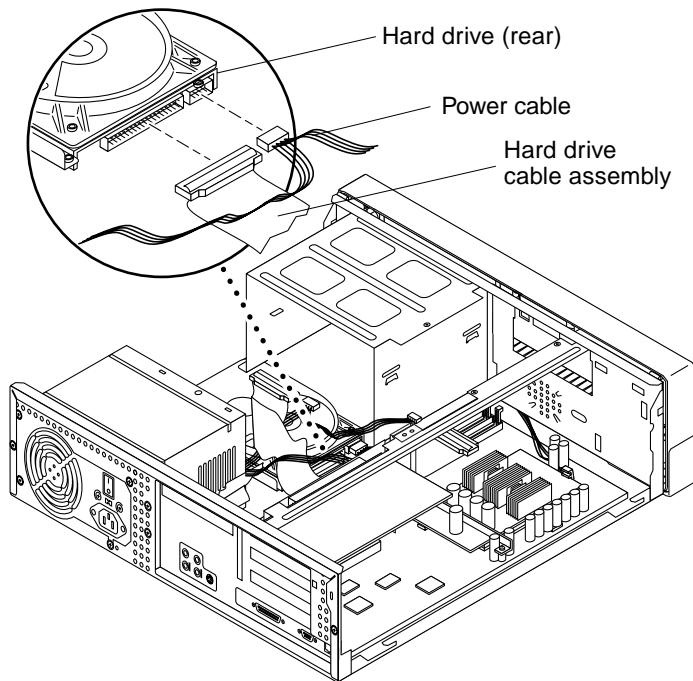
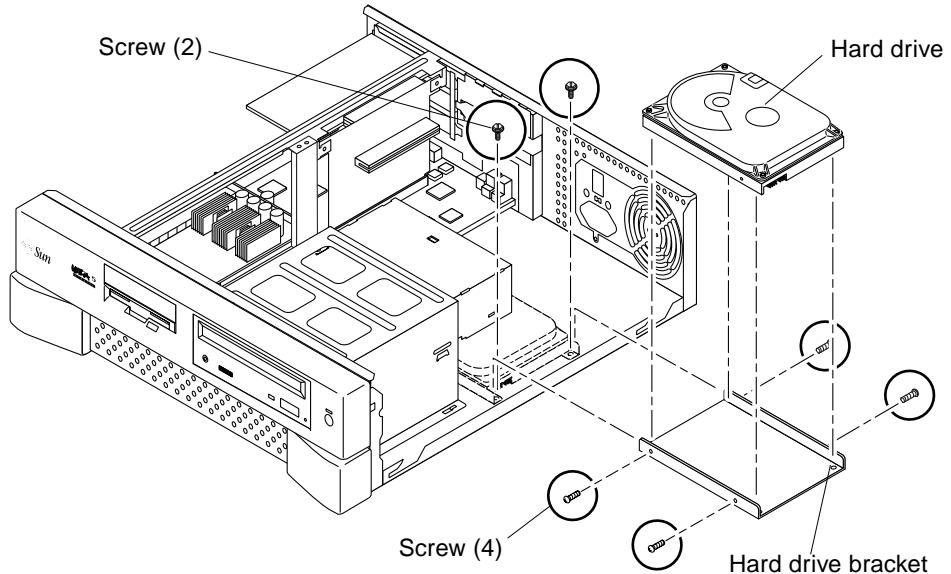

FIGURE 7-3 Removing and Replacing a Primary Hard Drive (Part 1)
FIGURE 7-4 Removing and Replacing a Primary Hard Drive (Part 2)
2. Remove the primary hard drive as follows (FIGURE 7-3 and FIGURE 7-4):
1. Replace the primary hard drive as follows (FIGURE 7-3 and FIGURE 7-4):